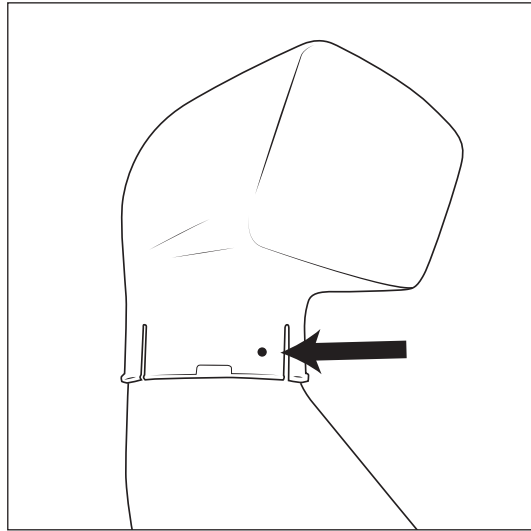

Figure 19
3. Mark the hole location on the Snorkel Body and drill a 5/16" hole (fig. 19).